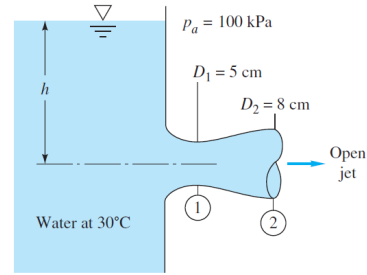

Fig. 3.20
3.20 If losses are neglected in Fig. 3.20, for what water level h will the flow begin to form vapor cavities at the throat of the nozzle?